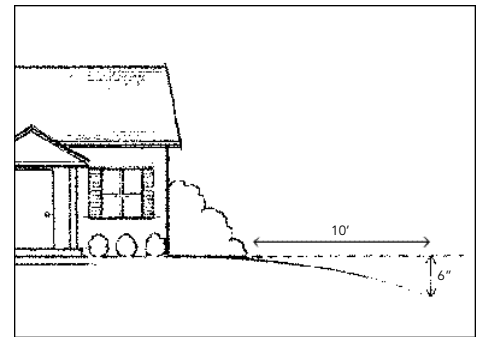

Fig. 3B
- Grade of foundation is an important factor. Grade should maintain the 5% fall from the foundation as previously stated. (See Fig. 3B.)